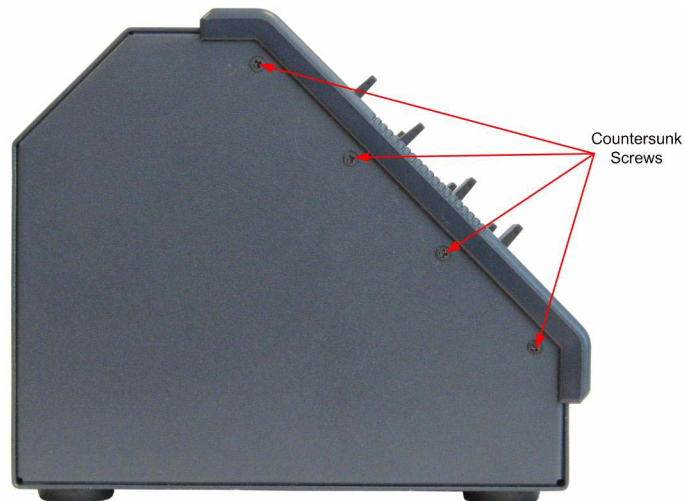

Figure 4-2: Desktop Panel Retaining Screws
2. The panel front must be rotated when the desktop panel is wall mounted so that the controls and display face upwards. To do this remove the eight countersunk screws holding the front of the panel on. The countersunk screws are located on the ends of the panel, four on each end (Figure 4-2).